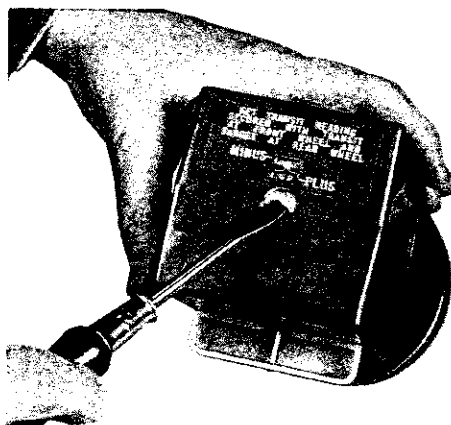

Fig. 107—Adjusting the Floor Level Compensator in the Aimers
(3) Turn the dial on the side of the transit until the bubble in the spirit level is centered.
(4) When the bubble is centered, not “plus” or “minus” reading on the compensator scale. This figure indicates the degree of slope of the floor and must be transferred to each aimer as follows:
(5) With a screwdriver, turn the adjusting slot of the floor level compensator in each aimer, until the correct plus or minus figure (or fractional part) appears in the proper window (Fig. 107).